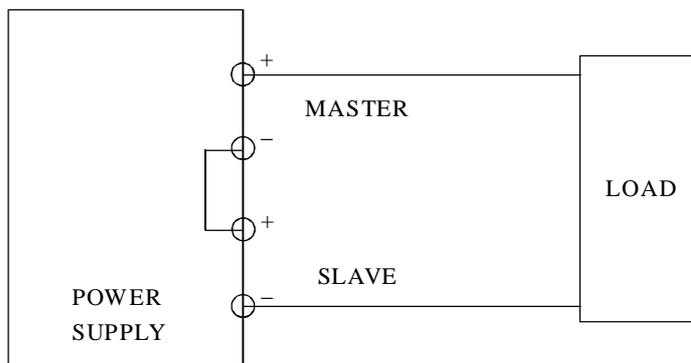

Fig.4-3 Single Supply
B. Single supply (Fig.4-3)
- E. If " single supply" operation is desired, this allows the power supply to be used as twice the voltage and rating current simply by using the negative (black) terminal of the SLAVE supply and the positive (red) terminal of the MASTER supply, the configuration as shown in Fig.4-3.